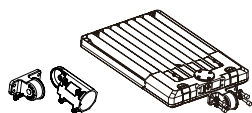

Fig 1
Step 1: Remove the bracket base from the bracket and then install the bracket base onto the light fixture with included fasteners. (Fig.1)